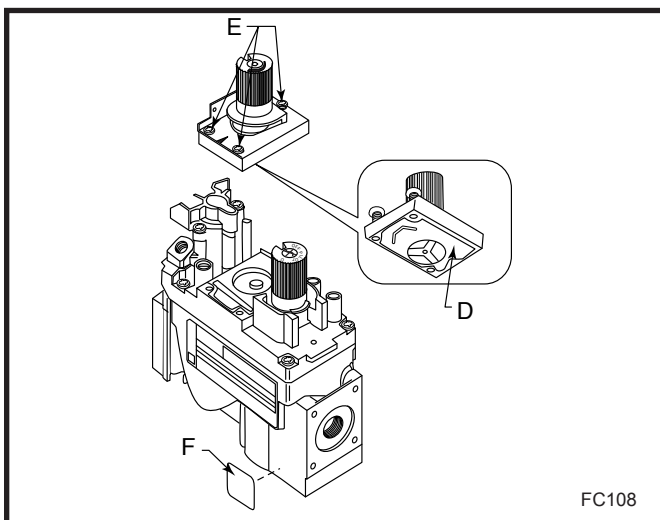

Fig. 42 Replace regulator.
2. Insure the rubber gasket (D) is properly positioned and install the new HI/LO pressure regulator assembly to the valve using the new screws (E) supplied with the kit. Tighten the screws securely. (Ref. torque = 25 in/lb) (Fig. 42)
3. Install the enclosed conversion label (F) to the valve body where it can easily be seen. (Fig. 42)